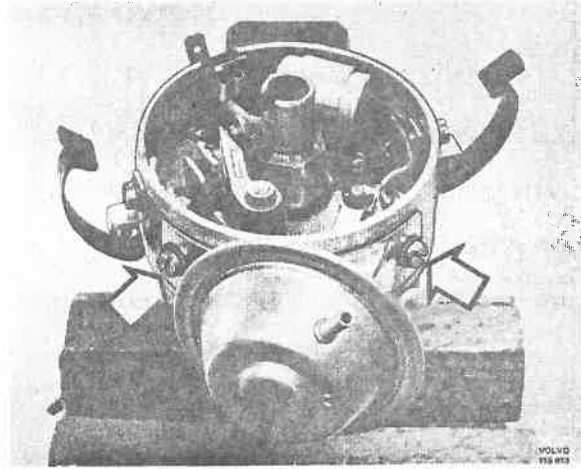

Fig. 34-10. Removing the vacuum regulator
1. Remove the vacuum regulator, Fig. 34-10.